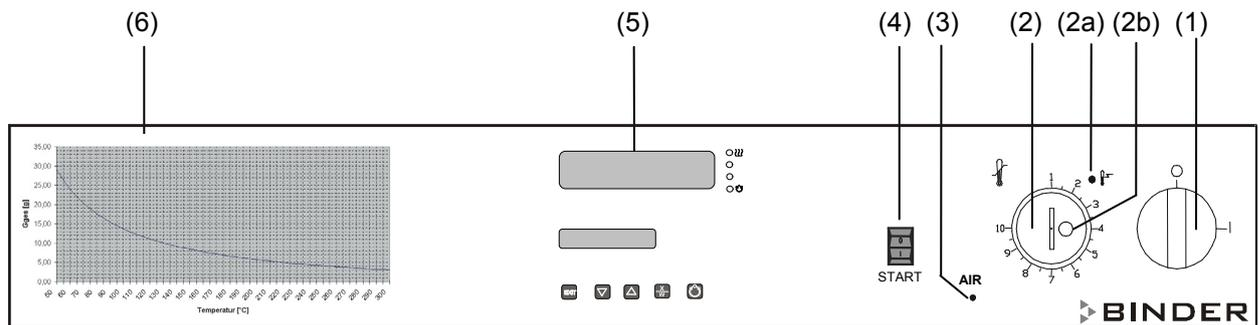

Figure 4: Control panel of FDL 115 standard unit
A flow monitor in the upper part of the device (pressure differential switch) monitors the stream of exhaust air. In the event of failure, the monitoring system turns the heater off immediately and shows this status with a visual signal: red indicator light "AIR" (3) (see Figure 4).